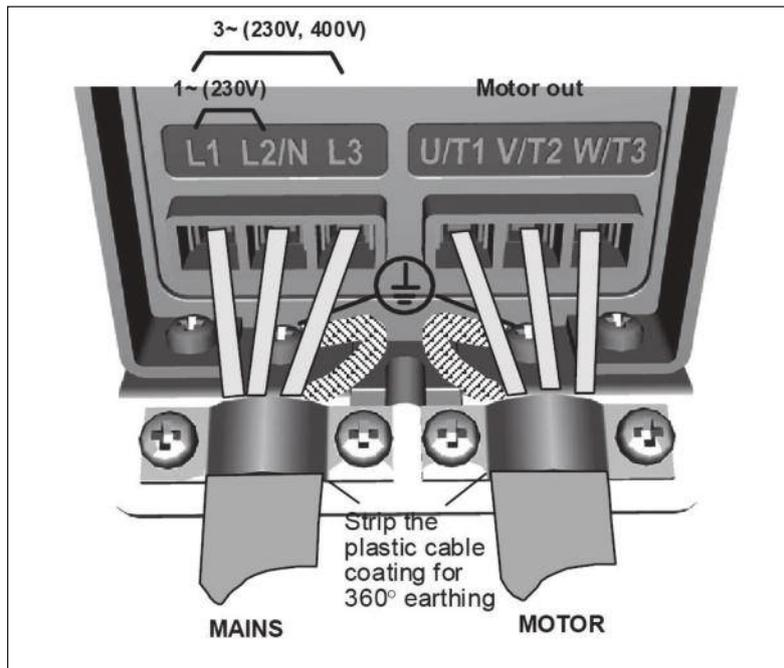
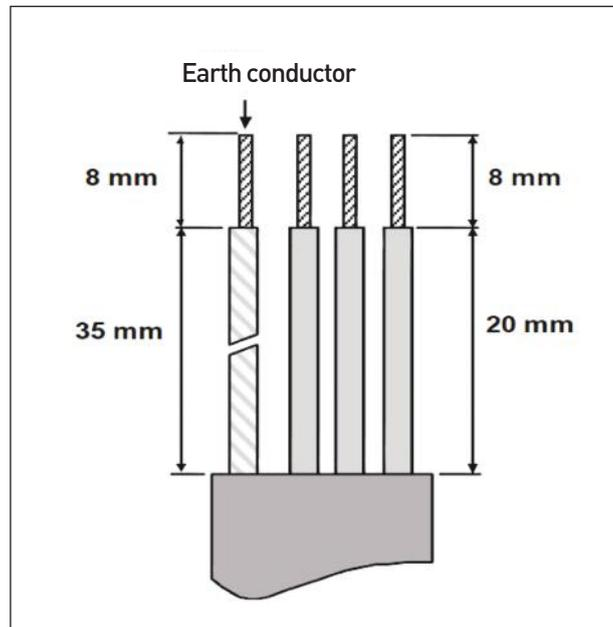

Figure 3.17: Power connections, MI1
Figure 3.31: Stripping of cables
4	<p>Connecting the cables:</p> <ul style="list-style-type: none"> <li>• Strip the motor and mains cables as advised in Figure 3.31.</li> <li>• Connect the mains, motor and control cables into their respective terminals, see Figures 3.17 - 3.26.</li> <li>• Note the tightening torques of power cables and control cables given in chapter 3.2.1 and 3.2.2.</li> <li>• For information on cable installation according to UL regulations see Chapter 3.2.8 .</li> <li>• Make sure that the control cable wires do not come in contact with the electronic components of the unit.</li> <li>• If an external brake resistor (option) is used, connect its cable to the appropriate terminal.</li> <li>• Check the connection of the earth cable to the motor and the frequency converter terminals marked with</li> </ul> <div style="text-align: center; margin: 10px 0;">  </div> <ul style="list-style-type: none"> <li>• Connect the separate shield of the motor cable to the earth plate of the frequency converter, motor and the supply centre.</li> </ul>
**Note!** Strip also the plastic cover of the cables for 360 degree earthing. See Figures 3.17, 3.18 and 3.25.